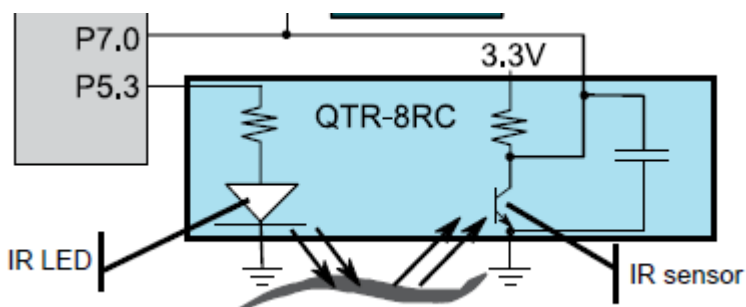

Figure 4: Reflectance Sensor Hardware Internals
As shown in Figure 4, P5.3 is configured as an output and controls the firing of IR LED (even numbered sensors) in the reflectance sensor array. The reflectance of the surface will affect the “effective resistance” of the transistor which in turn affects the decay rate of the voltage on Port7 pins. A more proper explanation is that the white surface reflects more IR wave to the base of the transistor, causing more current to flow through the collector-emitter and discharge the capacitor at a faster rate.
2. Configure P7.7 – P7.0 as output pins. Set the pins to Logic '1'. This will charge the capacitor in Figure 4.
4. Configure P7.7 – P7.0 as input pins. Capacitor in Figure 4 will start to discharge.